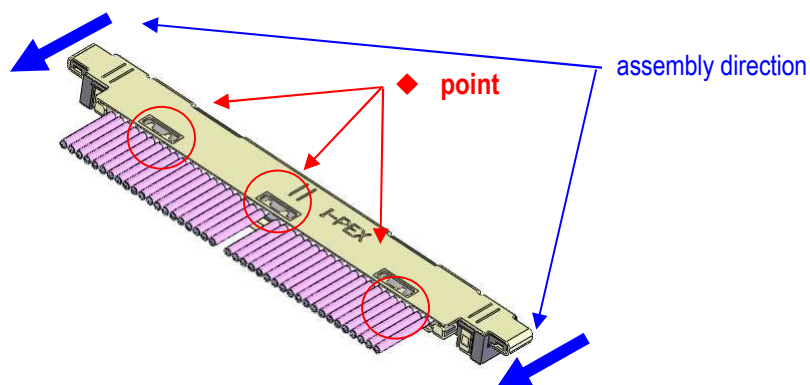

Fig.7 Soldering of Metal cover and GND Bar
- ③ Soldering holes of metal cover 3 positions (2 positions only 30P) and GND Bar with the soldering iron at all designated points is recommended. (Fig.7 ◆ point)